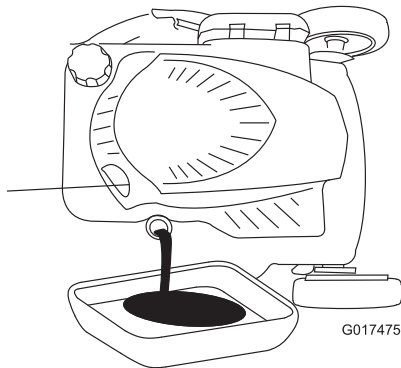

Figure 21
3. Tip the machine onto its side, with the dipstick down, to drain the used oil out through the oil-fill tube (Figure 21).